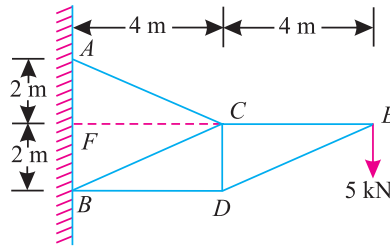

Fig. 13.33.
**Example 13.9.** A truss shown in Fig 13.33 is carrying a point load of 5 kN at E.